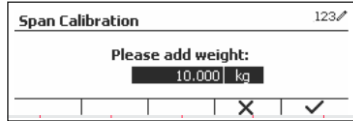

Figure 10
- Press the softkey corresponding to the ✓ icon to initiate Span Calibration. (See Figure 10)